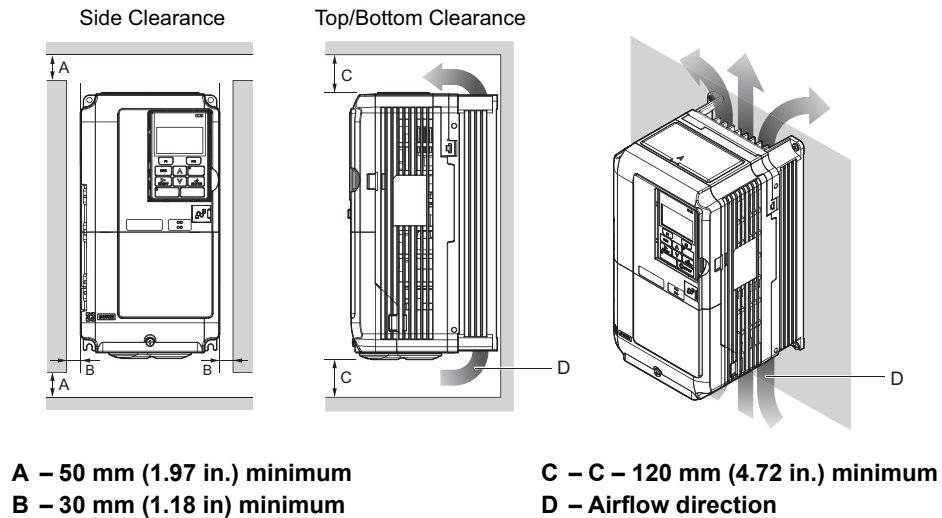

Figure 2.2 Correct Installation Spacing (Single)
*Figure 2.2* shows the installation distance required to maintain sufficient space for airflow and wiring. Install the heatsink against a closed surface to avoid diverting cooling air around the heatsink.